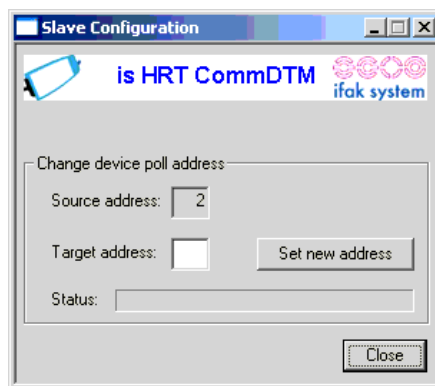

Figure 55. Change Poll Address
3. In the Slave Configuration dialog, see Figure 55, enter Target Address and click 'Set New Address'.